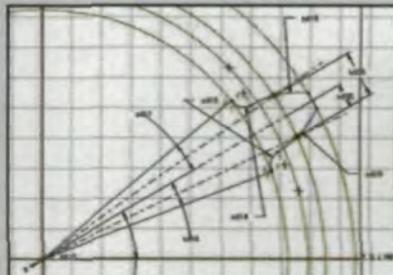

Fig. 2—Gear tooth definition. Courtesy of Meritor Automotive.
4. Define the gear tooth itself. Begin by creating a datum curve, and define it as shown in Fig. 2. Note that it is not a true involute profile. Using this simpler method, you will obtain about a 98% accurate representation of the tooth without creating an involute.
Tooth Definition: The tooth radius is defined by a radius that has its center lying on the base circle diameter (it is aligned to the base circle diameter). The tooth thickness is defined by two points that intersect the pitch diameter and the tooth radius. The outside of the tooth edge is used from the datum curve **MAJOR_DIA** and the root of the tooth edge is used from the datum curve **MINOR_DIA**. The fillet radius at the bottom of the tooth to the root or minor diameter of the tooth is defined in Fig. 2 as **sd14** & **sd15** and is defined in our gear summaries as the tip radius on the hob. This is not the exact radius.
The radius on the tooth will actually be greater than the tip radius on the hob, but once again we are about 98% accurate. Complete the curve by sketching lines to the center, forming a single tooth using a datum curve. Regenerate the curve and Select OK. Select Modify, Dim Cosmetics, Symbol and add names to the tooth thickness dimension (shown as *sd36* in Fig. 2) and one of the tooth radius dimensions (*sd18*) and the tip radius (*sd14*). Call the tooth thickness **TOOTH_THICKNESS**, the tooth radius **TOOTH_RADIUS** and the tip radius **TIP_RADIUS**.